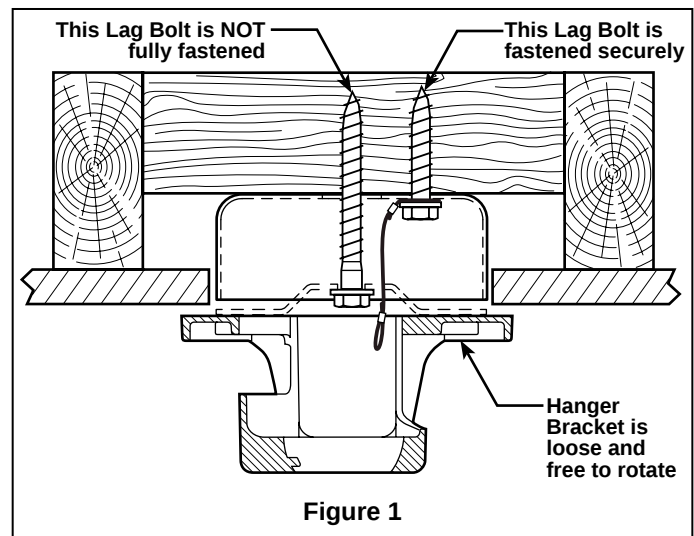

Figure 1
NOTE: If you are uncertain of part description, refer to exploded view illustration. (Figure 1, page 15)
Your new ceiling fan will require a grounded electrical supply line of 120 volts AC, 60 Hz, 15 amp circuit. The outlet box must be securely anchored and capable of withstanding a load of at least 100 lbs. Figure 1 depicts different structural configurations that may be used for mounting the outlet box.
3. Separate and untwist the three motor leads and safety cable. Route the motor leads and safety cable through the bottom end of the extension pole as shown (Figure 1).
1. Attaching Ceiling Support Cable (Figure 1): Drill $\frac{1}{4}$ " pilot hole through one of the four corners of the junction box, into the ceiling joist or structural member. Securely attach the ceiling support cable with $\frac{3}{8}$ " x 2" lag bolt and flat washer.
NOTE: Ceiling support cable must be fastened between flat washer and junction box with 2" lag bolt (Figure 1).
2. Preliminary Hanger Bracket Attachment (Figure 1): Drill $\frac{1}{4}$ " pilot hole through the center of the junction box, into the ceiling joist or structural member. Loosely attach hanger bracket to the ceiling structure using $\frac{3}{8}$ " x 5" lag bolt and flat washer. **DO NOT FULLY TIGHTEN THE LAG BOLT YET!** Hanger Bracket should be free to rotate.
The fan must be hung with at least 7' of clearance from floor to blades (Figure 1)
3. Securely connect the white wire from the fan motor to the white supply (neutral) wire using wire connector supplied (Figure 1).
4. Securely connect the black fan motor wire and blue wire to the black supply wire using wire connector supplied (Figure 1).